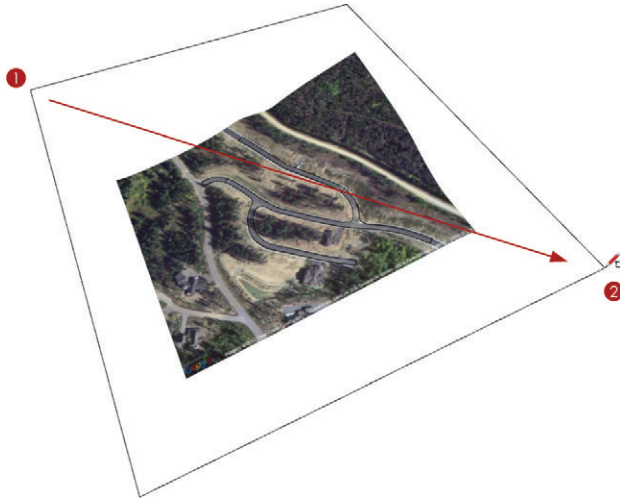

Figure 15.14 Draw the large rectangle.
3. Draw a rectangle that is larger than the site. Double-click the rectangle using the Select tool to select the surface as well as the bounding edges. Right-click on the selection and choose Make Group (Figure 15.14).